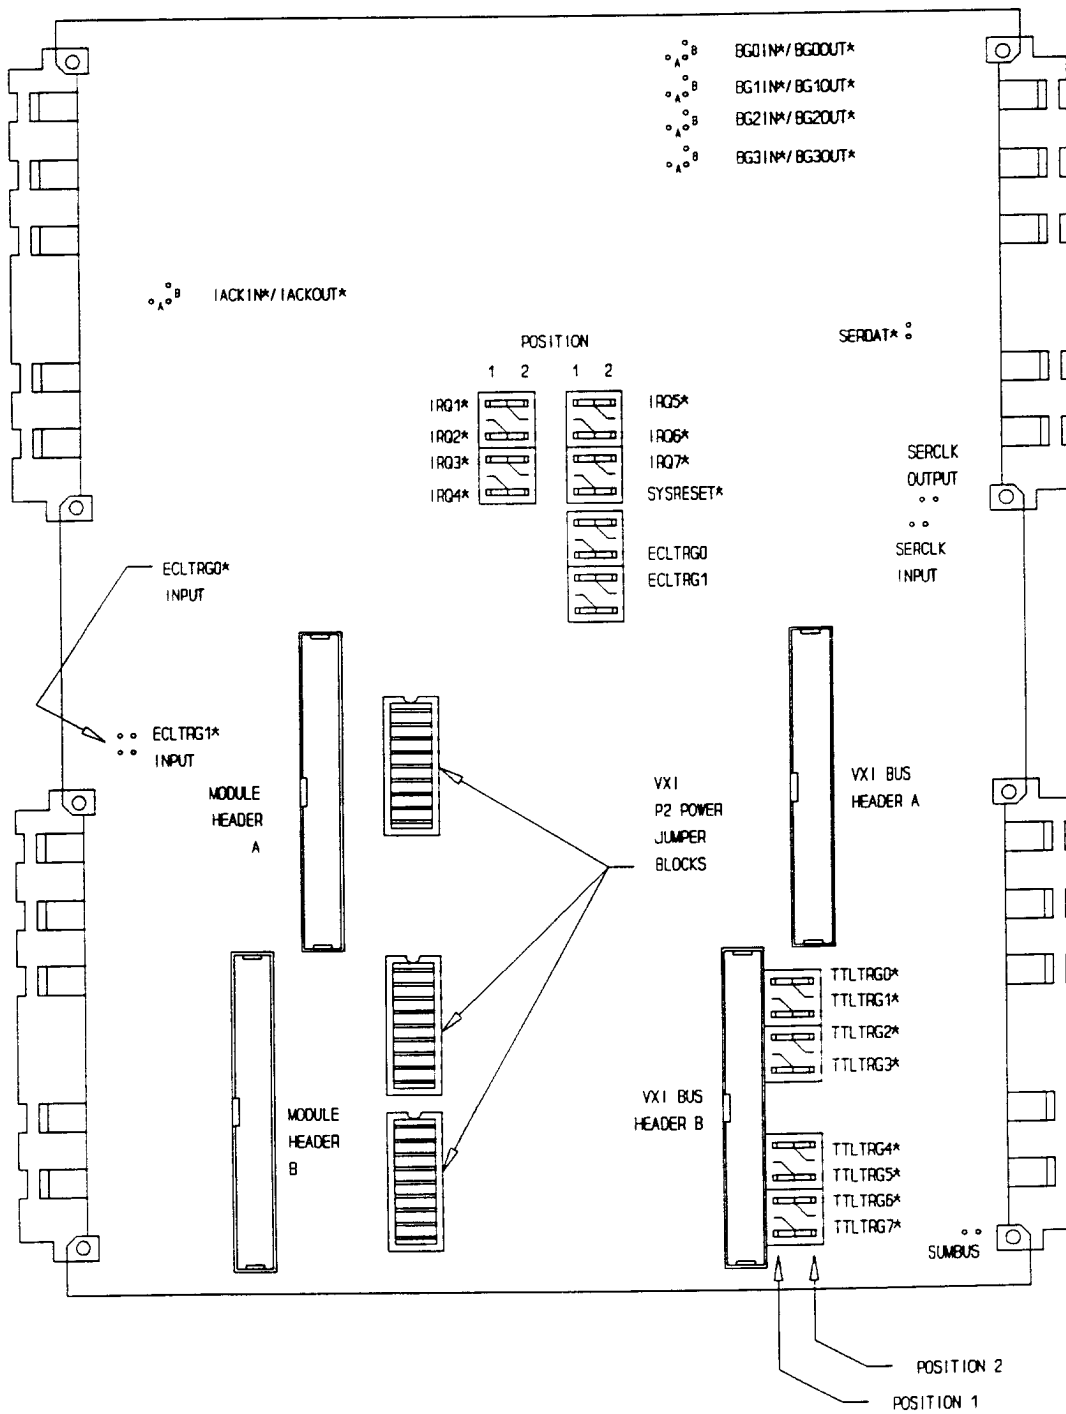

Figure 851-1: 73A-851 Controls and Indicators
The following controls are provided to select the functions of the 73A-851 Module's operating environment. See Figure 851-1 for their physical locations.
- 1) Connect the ribbon cable assembly to Module Headers A and B on the 73A-851 (see Figure 851-1). Make sure that pin 1 of each ribbon cable (indicated by the red wire at one side of each cable) is connected to pin 1 of its header.